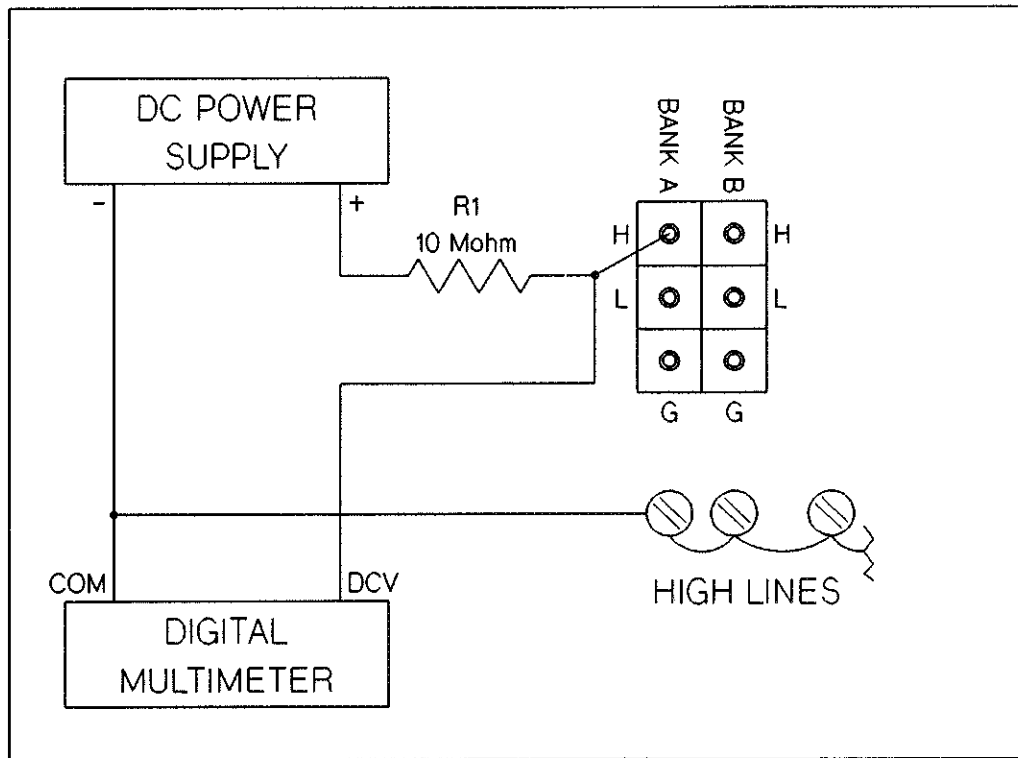

Figure 8-15 HP 44705A/H Bank A HIGH to Common DC Isolation
8. Connect the test circuit between the Bank A HIGH common test point and the shorted HIGH lines of the test fixture as shown in Figure 8-15.